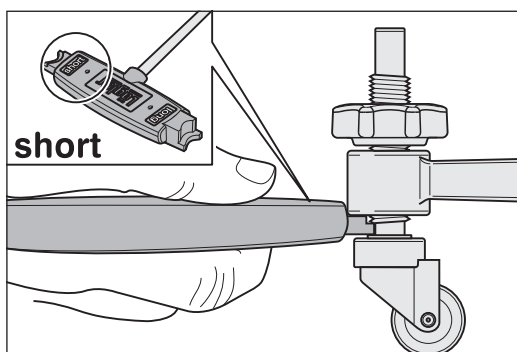
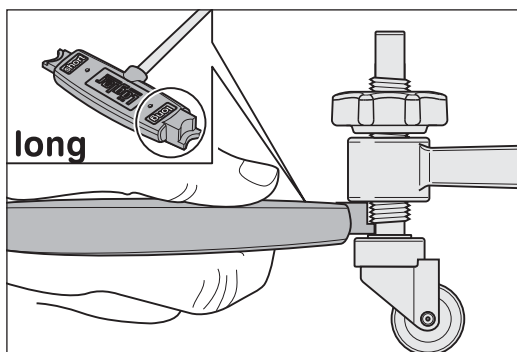

Fig. 57 Standard setting for the **short attachment** and the **corner attachment**.
Fig. 58 Standard setting for the **long attachment**.
- 3 Hold the appropriate universal spanner alignment mark for the attachment used between the guide roller and the fan housing. The lettering on the spanner must be legible from above (fig. 57 and fig. 58).
- 4 Now turn the guide roller in the direction required until the alignment mark on the fan housing and the guide roller match up (fig. 57 and fig. 58).